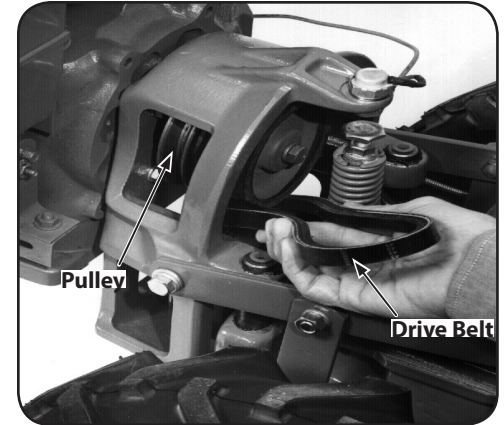

Figure 5-28
6. Push the Wheels/Tines/PTO Drive Lever down into the FORWARD position. This increases the distance between the upper and lower pulleys. Next, lift and pull the entire belt out from between the pulleys. See Figure 5-28.
8. Squeeze the belt in the middle and insert one end in between the pulleys. See Figure 5-28.